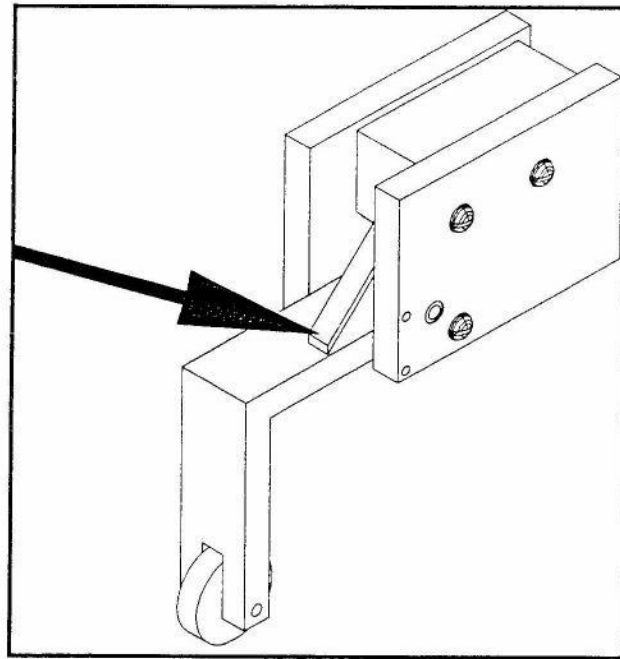

Figure 23
2. The reversing trip arm micro switch must be adjusted to allow the GEMINI to start without immediately reversing. The GEMINI can immediately reverse after starting if the trip arm is set too sensitively. If the micro switch needs to be adjusted it is adjusted as follows: See Figure 23.